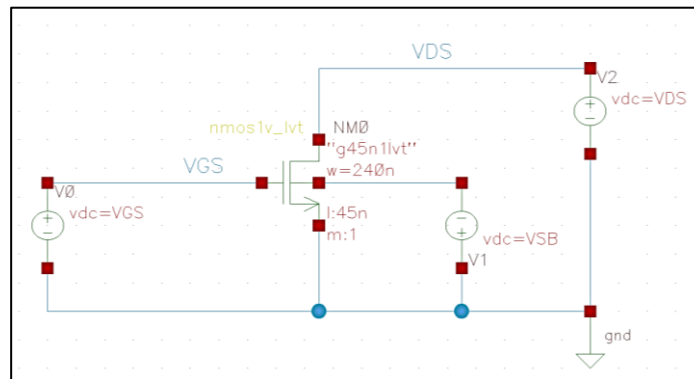
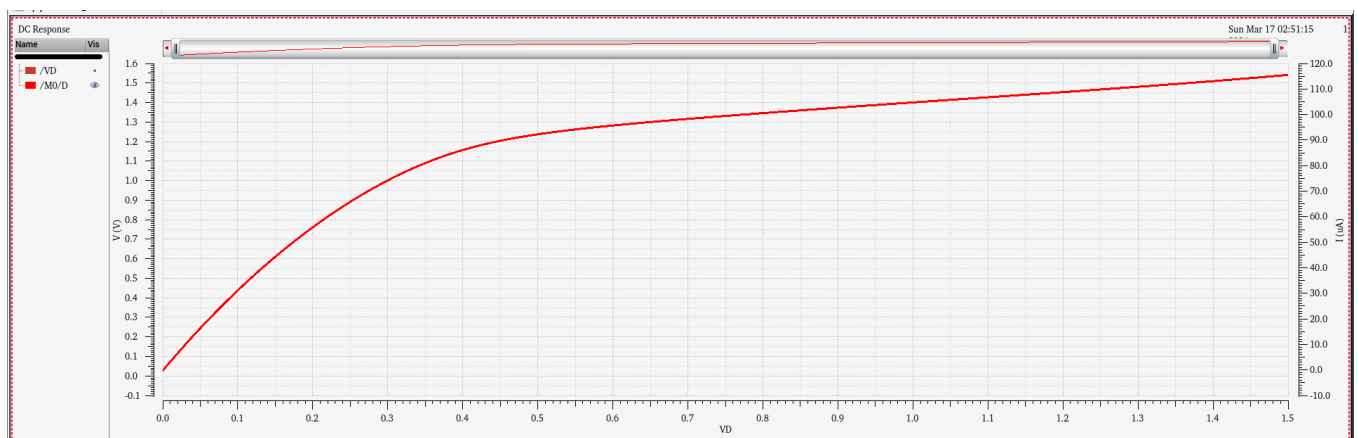

Figure 1 Test setup for the NMOS transistor.
Figure 3 I_D vs V_{DS} of NMOS @ $V_{gs} = 1V$.
Instructions: For example, design a testbench similar to **Figures 1** and **2** to characterize the devices, maintaining the default device dimensions ($W/L = 120n/45n$, Finger = 2). Based on Lab 0, students should obtain results corresponding to the curves shown in **Figures 3** and **4**.
3. Based on **Figure 3**, qualitatively determine the operating regions of the NMOS transistor.